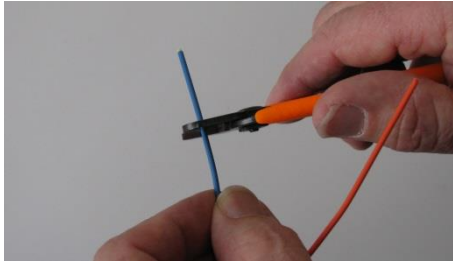

Figure 7
2.4. Remove the jacket of the sub cable with the stripping tool down to 29mm (figure 7).